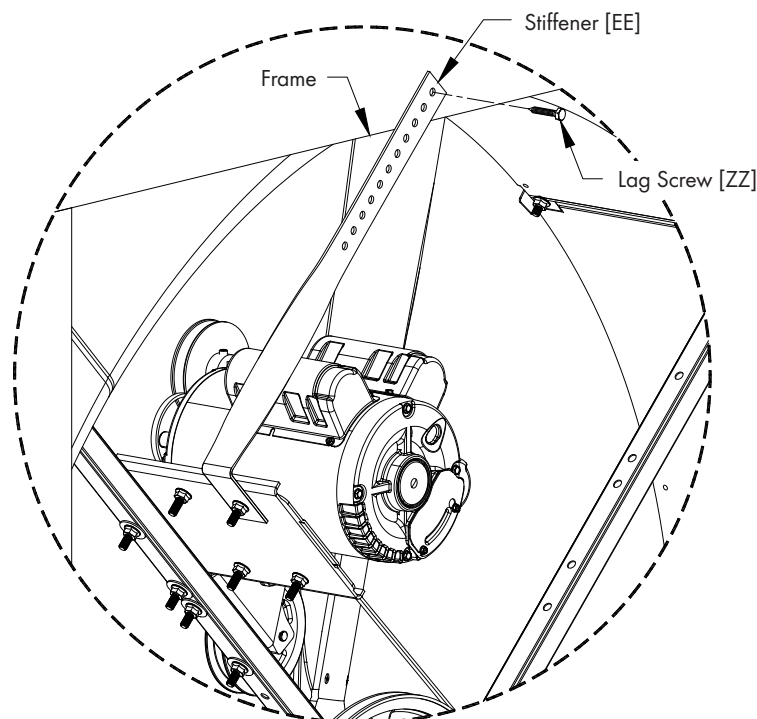

Figure 17B
Attach Motor Bracket Stiffener [EE] to framing using (1) Lag Screw [ZZ]. See Figure 17B.